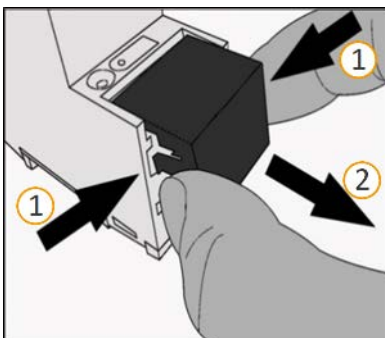

Figure 32: Removing the cover cap
1. Gently press in the cover cap at the side (see figure 32, item 1).
2. Pull off the cover cap upwards (see figure 32, item 2).